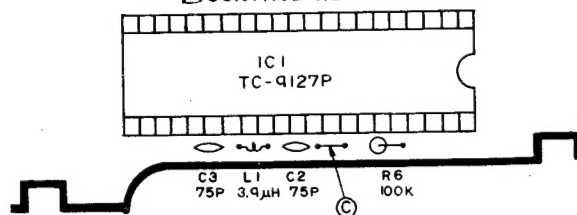

Fig. 17
This set has been designed for forced suppression of the MPX function with an ANT input level of 25 to 35 dB. This forced monaural function is obtained by a bias of 2 to 3 V at pin (16) of MPX IC, μ PC-1161. As shown in Fig. 17, Q_{26} becomes OFF at I_{th} or less, and at point G becomes HIGH level. Voltage division is executed for this by R109, R104, and Q_{21} , and the signal at point E is obtained. This is supplied to pin (16) of μ PC-1161.